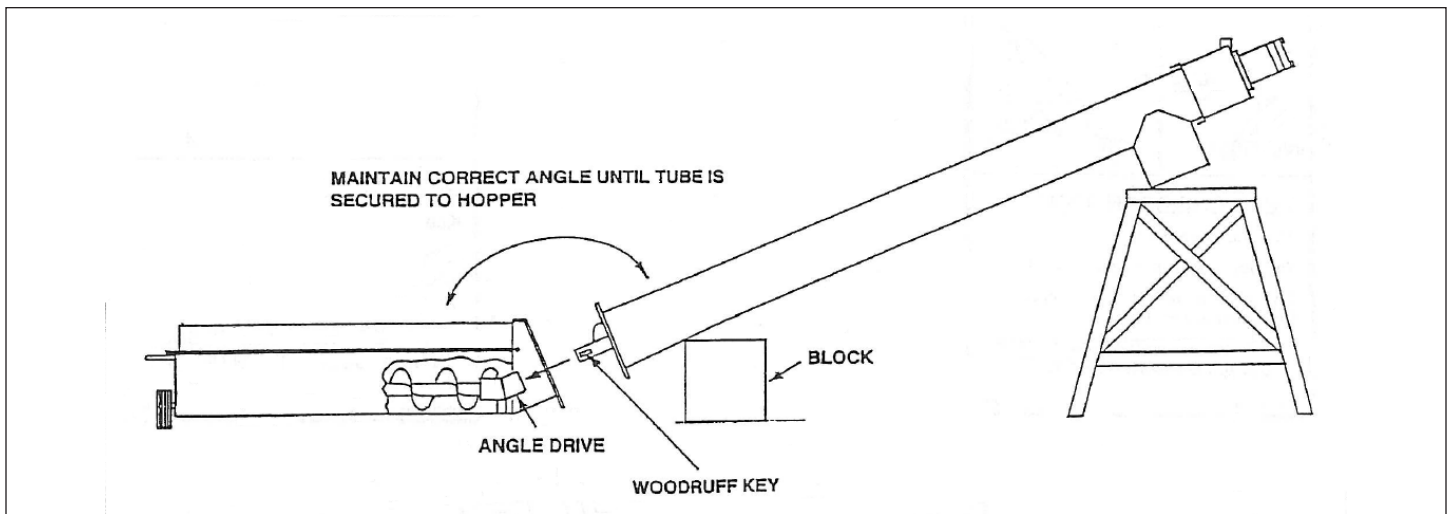

Figure No. 1
1. Remove access covers and clean paint and dirt from flightshaft end. Insert Woodruff key into flight shaft end as shown in **Figure No. 1**.